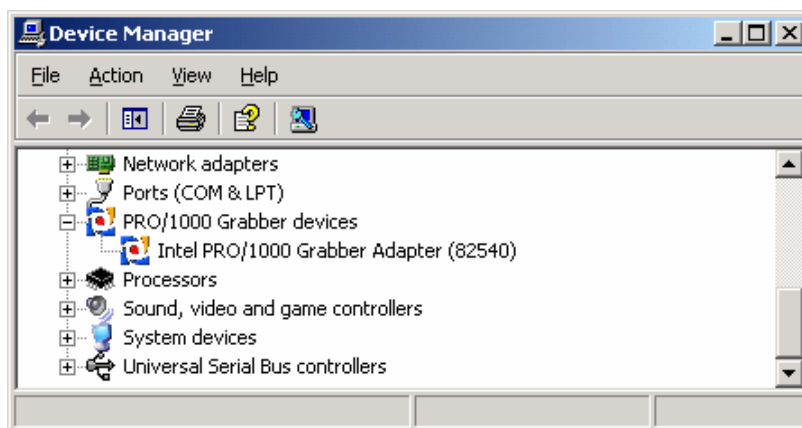

Figure 1 – Windows Device Manager
5. Update the NIC to use the iPort™ driver. Bring up the Control Panel(“Start→Settings→Control Panel”). Select “System”. Choose the “Hardware” panel and select the “Device Manger” as shown in Figure 1 below.